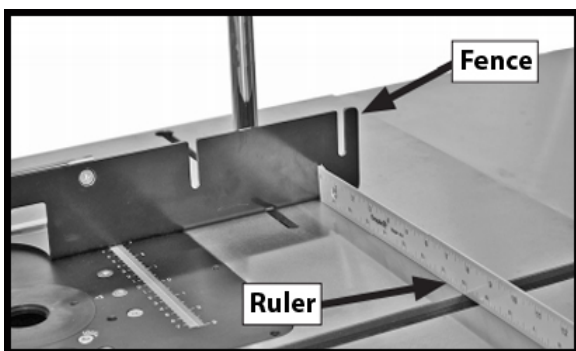

Figure 45
The fence should always be parallel with the table slots when using a miter gauge. This will help to ensure that kickback does not occur in during this operation. With an accurate ruler make sure the fence is at an equal distance between the fence and the table slot along the entire length. (Fig.45)
7. Make sure the fence is square with the table T-slot (see instructions re Fig.45)